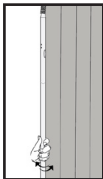

Figure 6.7;
Press and hold the PROGRAMMING BUTTON. You will hear a TRIPLE BEEP (3) [Fig. 6.7], then release.